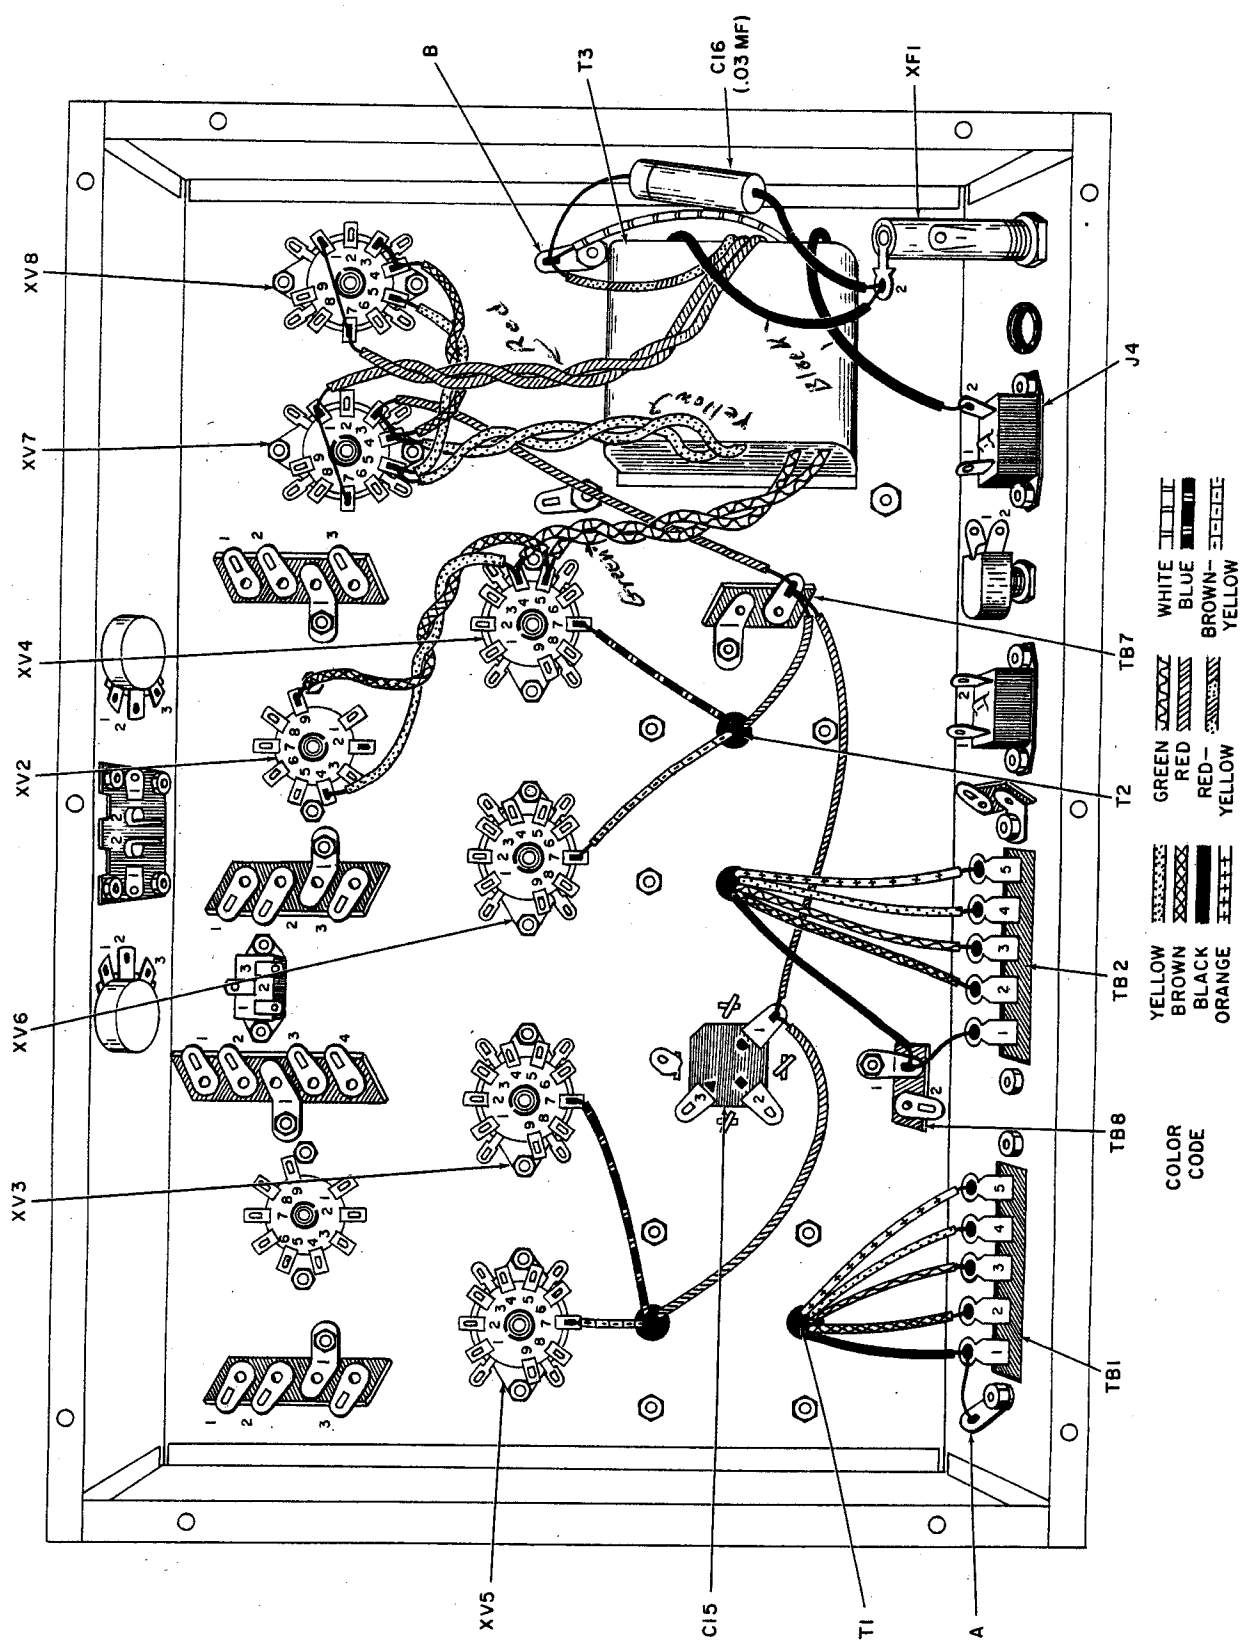

Figure 4. Preliminary Wiring
(*) 1. On power transformer T3 (30021), cut both red and both green leads to 6 in., the red-yellow lead to 2-1/2 in., the white lead to 3 in., the two black leads to 3-1/2 in., and the two yellow leads to 4-1/2 in. Mount T3 as shown, with the red leads closest to the side of the chassis. (See figure 4.) Use two No. 8 ground lugs, four No. 8 lockwashers, and four No. 8-32 hex nuts.
(*) 3. On output transformer T2 (32013), cut the brown, yellow, green, and orange leads to 3-1/2 in. Cut the blue, yellow-brown, and black leads to 3 in., and the red lead to 2 in. Pull the brown-yellow, blue, and red leads through the chassis opening closest to T3. Pull the remaining leads through the chassis opening furthest from T3. (See figure 4.) Use four No. 8-32 screws, four No. 8 lockwashers, and four No. 8-32 hex nuts to mount the transformer.
(*) 4. Mount two 9-pin miniature tube sockets (with shield supports) XV1 and XV2, as shown. Note that the sockets should be oriented so that the large space between socket pins is directed towards transformer T3. Use two No. 4-40 screws, two No. 4 lockwashers and two No. 4-40 hex nuts to mount each socket. (See figure 4.)
(*) 5. Mount electrolytic can capacitor C15, as shown. Note orientation of half-moon, square, and triangle near lugs as shown in figure 4. Insert the capacitor mounting tabs into the slots in the chassis and twist the tabs a little less than a quarter turn. Do not twist the tabs excessively or they will shear off. Solder the capacitor tab without a hole, to the chassis at the slot in the chassis.
- () 1. Mount tube sockets XV3 through XV6, as shown. Orient each socket so that the large space between pins 1 and 9 is directed away from power transformer T3. (See figure 4.) Use two No. 4-40 screws, two No. 4 lockwashers and two No. 4-40 hex nuts to secure each socket.
- (X) 2. Mount tube sockets XV7 and XV8, as shown. Orient each socket so that the large space between pins 1 and 9 is directed away from power transformer T3, towards the front apron. (See figure 4.) Use two No. 4-40 screws, two No. 4 lockwashers and two No. 4-40 hex nuts to
SEE FIGURE 4 FOR ALL STEPS ON THIS PAGE
- (*) 13. Connect a 4 in. piece of yellow wire to XV4-4 and a 4 in. piece of brown wire to XV4-5. Twist the wires together, as shown in figure 4. Connect the other end of the yellow wire to XV2-4 and the other end of the brown wire to XV2-9. Now solder two wires connected to XV4-4 and the two wires connected to XV4-5.